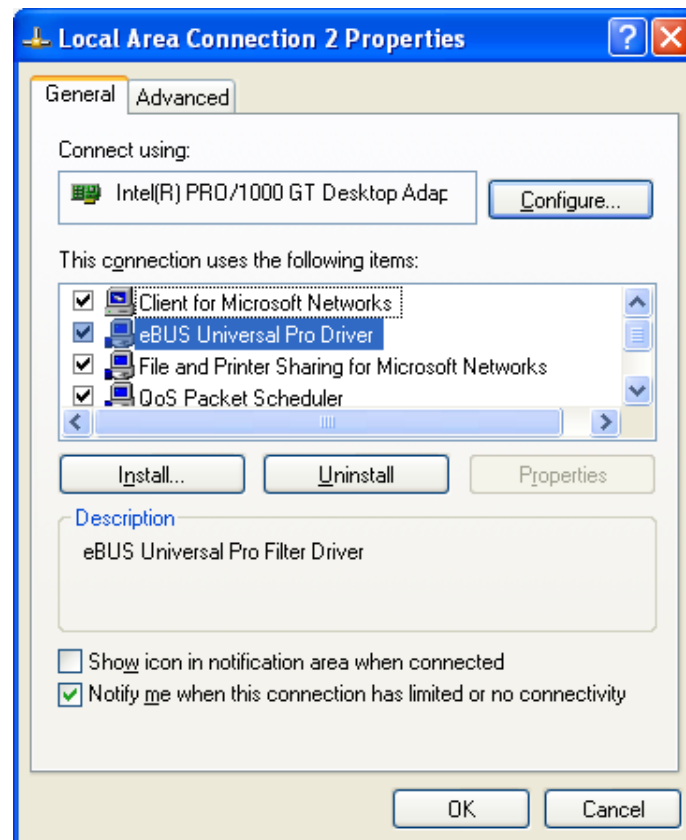
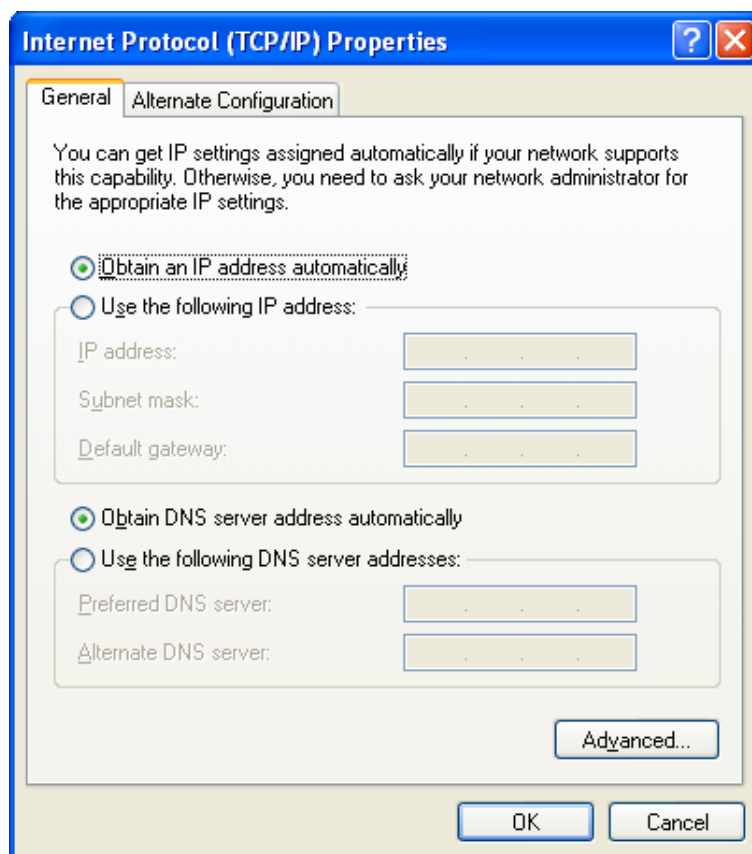
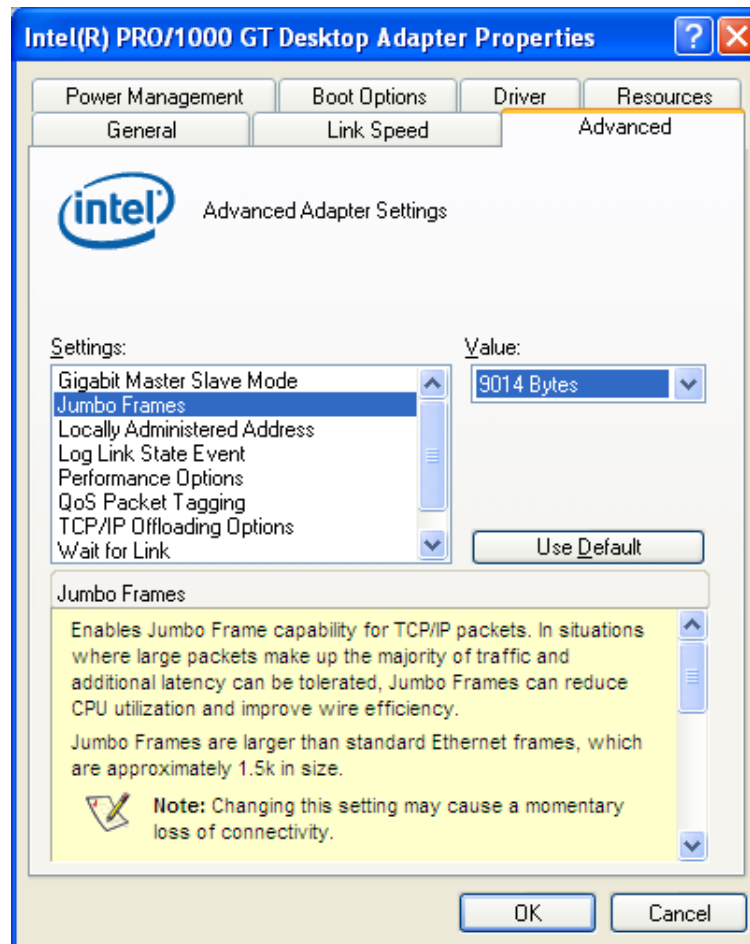

Figure 2.4: Local Area Connection Properties
Figure 2.5: TCP/IP Properties
Figure 2.6: Advanced Network Adapter Properties
2. By default, Photonfocus GigE Vision cameras are configured to obtain an IP address automatically. For this quick start guide it is recommended to configure the network adapter to obtain an IP address automatically. To do this, select Internet Protocol (TCP/IP) (see Fig. 2.4), click the Properties button and select Obtain an IP address automatically (see Fig. 2.5).
3. Open again the Local Area Connection Properties window (see Fig. 2.4) and click on the Configure button. In the window that appears click on the Advanced tab and click on Jumbo Frames in the Settings list (see Fig. 2.6). The highest number gives the best performance. Some tools however don't support the value 16128. For this guide it is recommended to select 9014 Bytes in the Value list.